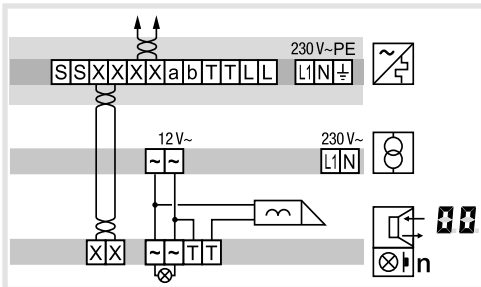

Figure 8: Door release connection on the door station
- Pull off connection terminal block (12) from the audio insert.
- Connect the wire pair of the 2wire bus cable to the terminals **XX** of the connection terminal block (Figure 8).